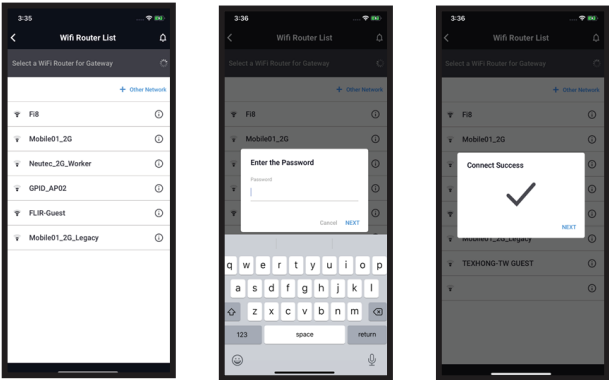

Figure 8.4 Adding a new network or selecting an existing one.
3. Select a Wi-Fi network from the list or tap **+ Other Network** to add a new network (see Figure 8.4 above).
3. Tap **+** **Add Server** in the mobile app to setup a new network or select an existing one from the list as shown in Figure 8.4 above.